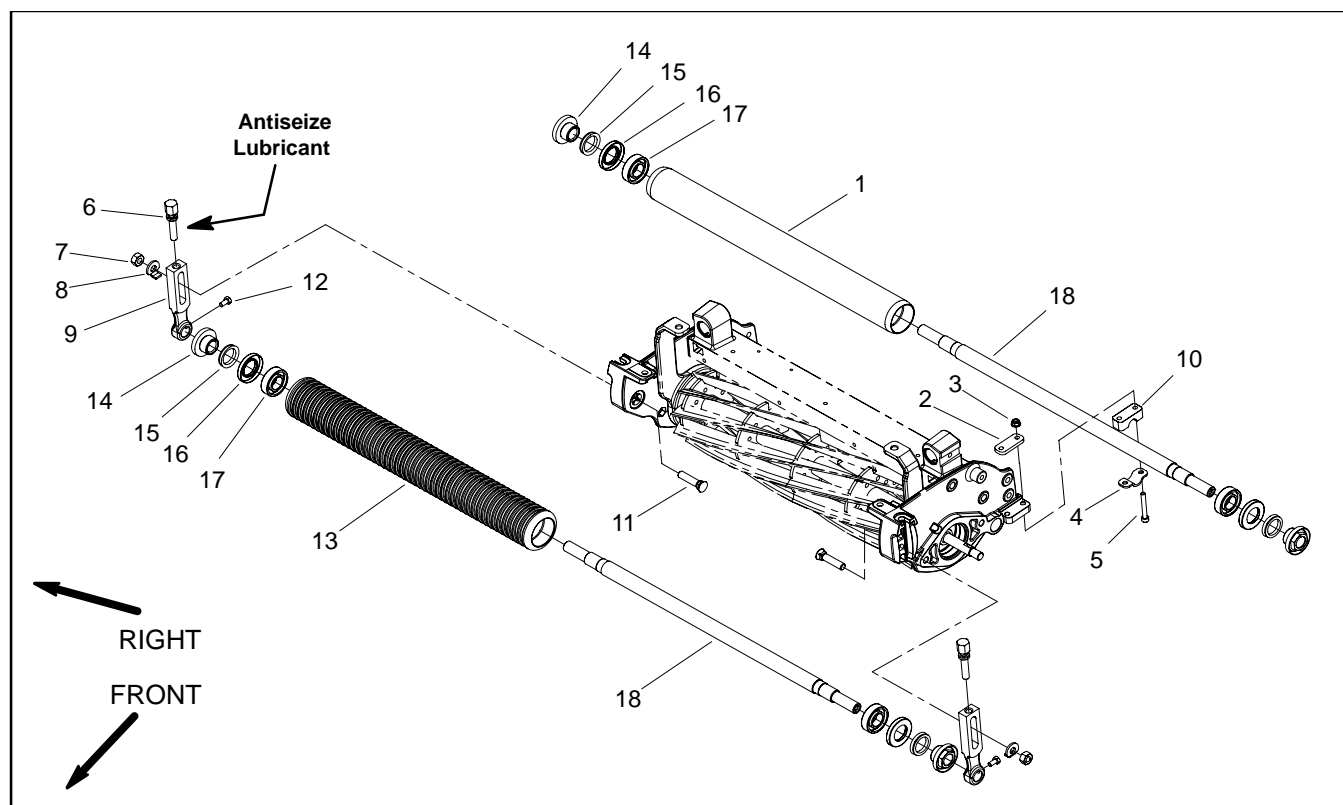

Figure 22
Roller Removal (Fig. 22)
Roller Installation (Fig. 22)
- B. Install roller spacer and shaft retainer onto rear roller shaft on the opposite side of the cutting unit. Install two (2) socket head screws, roller shim and flange nuts but do not tighten fully (Fig. 22).